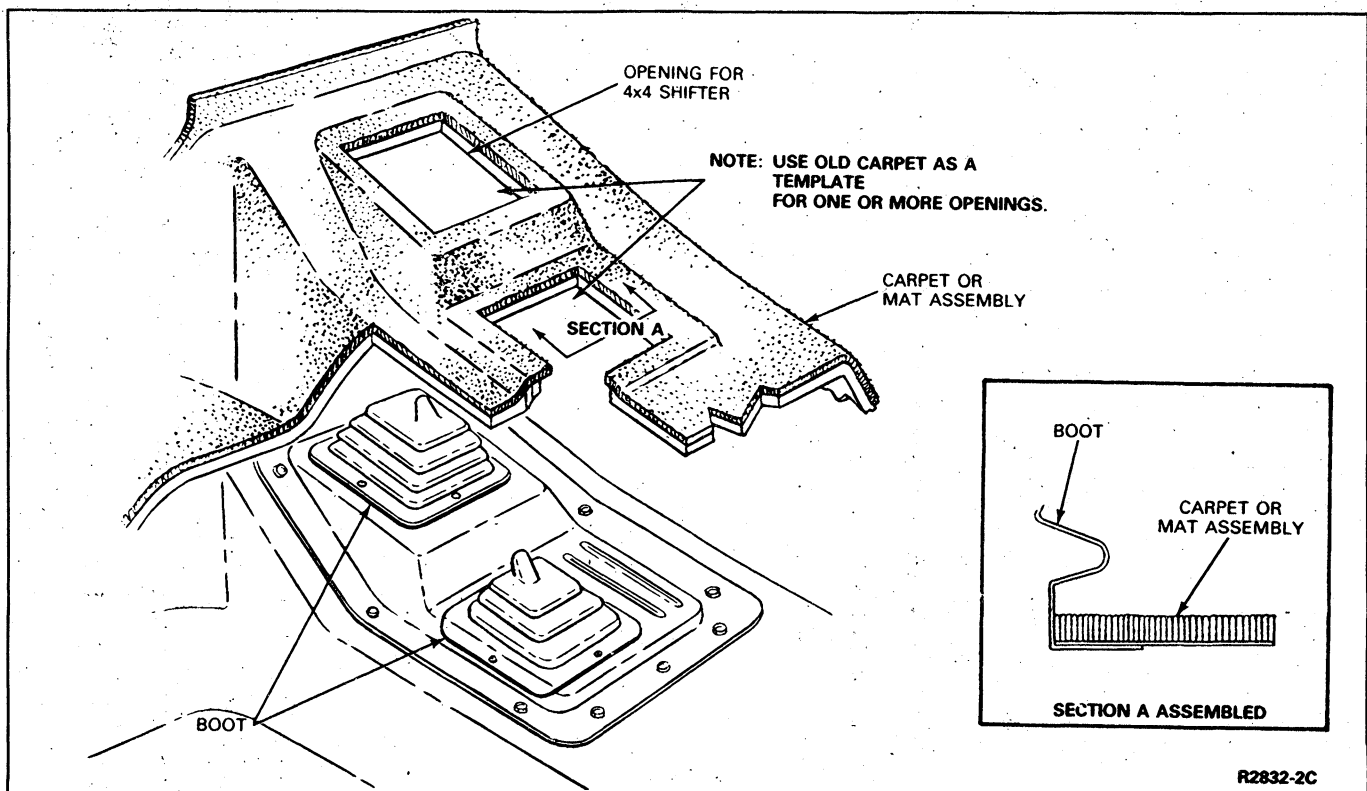

FIG. 1 Floor Carpet Center Retainers—F-150—F-350, F-Super Duty and Bronco
7. Install carpet or mat under floor shifter boot (Fig. 1, View A).